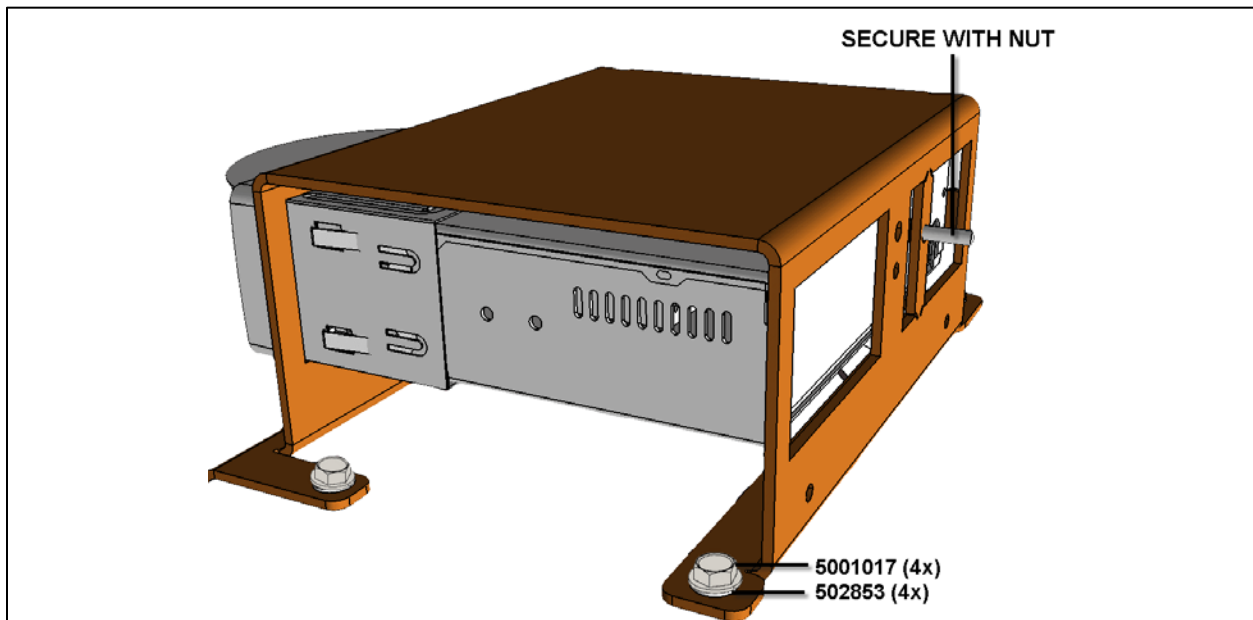

FIGURE 1 407639 BRACKET INSTALLATION
5. Insert the DVD in bracket **407639** and secure with the provided nut. (fig. 1)